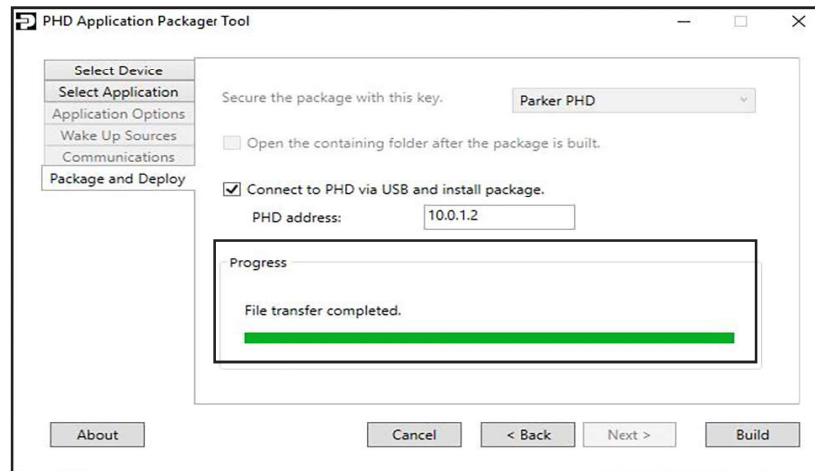

Figure 14 - File Transfer Completed
- 1.18. Wait for the **File Transfer Completed** message to appear and close the software. See Figure 14.